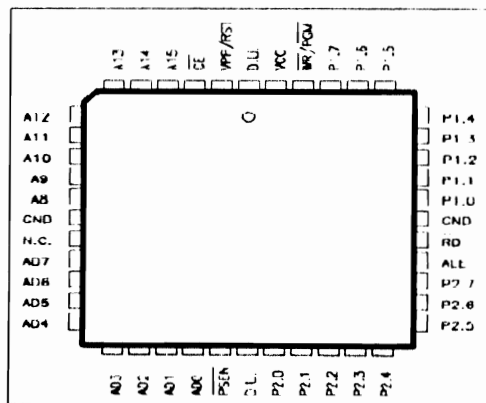

Figure 7. PLCC Pinout.
Figure 7 shows the PLCC pinout. PLCC leads are in the same sequence as the CERDIP pinout. No connect (NC) and don't use (DU) leads are inserted at strategic locations. Future enhancements will use these leads for expanded features. DU leads should be left unconnected.